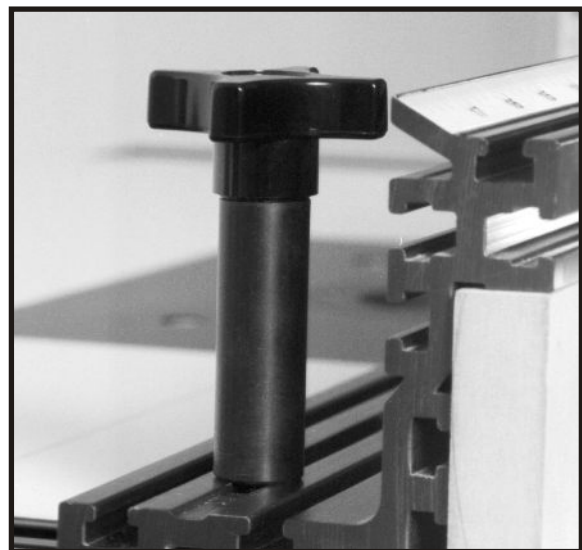

FIG. 9
9. Slide the 3/4" x 1-1/2" rectangular T-nut for the extension knob (Part #5) into the T-slot next to the scales on the fence track (Fig. 8). The extension knobs (Part #9) will thread into these nuts to hold the fence in position. To do so, position the end of the fence over the track and look directly down through the open slot in the base of the fence frame and visually line up the hole in the rectangular T-nut. Then insert the threaded tip of the extension knob through the slot fence and into the threaded hole in the T-nut (Fig. 9). Twisting the lock-down knob clockwise will fasten the fence to the tracks and hold the fence firmly in position.